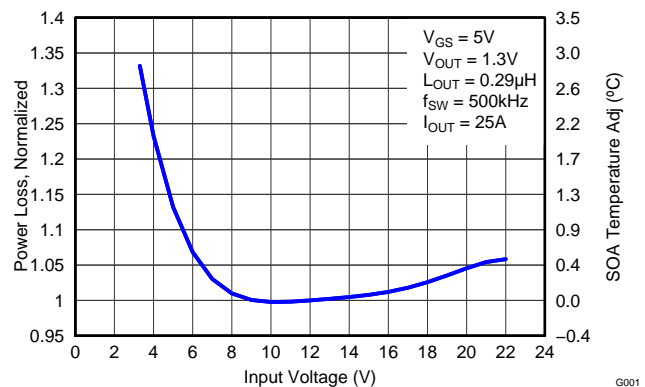

Figure 6. Normalized Power Loss vs Input Voltage
- Normalized Power Loss for input voltage ≈ 1.03 (Figure 6)
- SOA adjustment for input voltage ≈ 0.3°C (Figure 6)